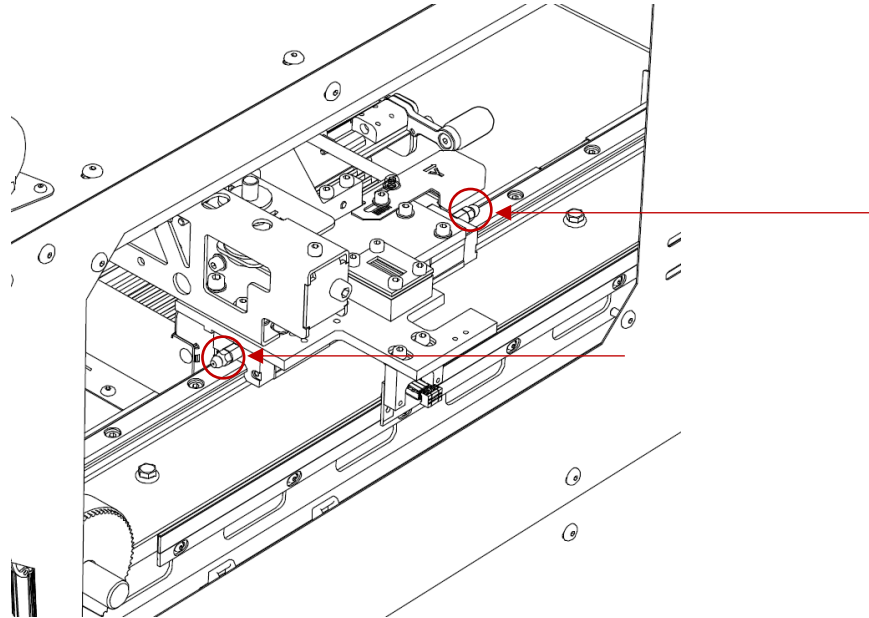

Fig. 96 Grease nipples are visible through top left inspection opening
11. Manually move the X-axis gate to a position where you can access the grease nipples on both sides through the inspection opening (Fig. 96).